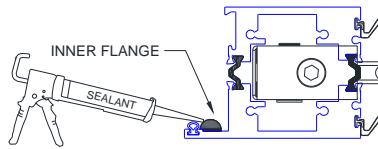
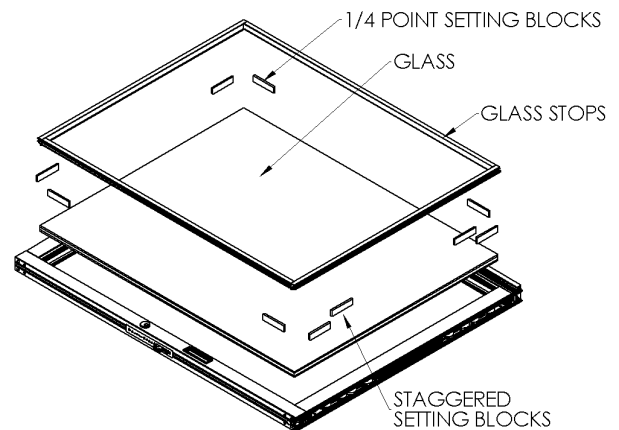

Figure 12:
Figure 13:
- Apply a 1/4"x1/4"x6" bead of compatible sealant from each corner on inner flange of panel (Figure 12).
- Install 4"x1/8"x1" glass setting blocks located in red bag (10 per panel) at 1/4 points into stiles, top and bottom rails. To properly support insulated glass panes, stagger the setting blocks at bottom (Figure 13).
- Install glass to rest on the inner flange of panel then install glass stops (Figure 13). For instructions on squaring the panels see Appendix C.
- Install glass to rest on the inner flange of panel (Figure 12) then install glass stops (Figure 13).